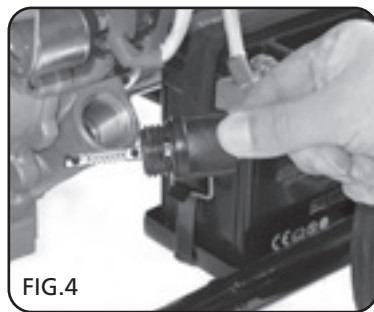

FIG.4
### 9.2 PREPARING THE GENERATOR - FIGS. 4 - 7
**NOTE:** The generator has a low oil sensor and will not start if the generator has no oil (Fig.4).